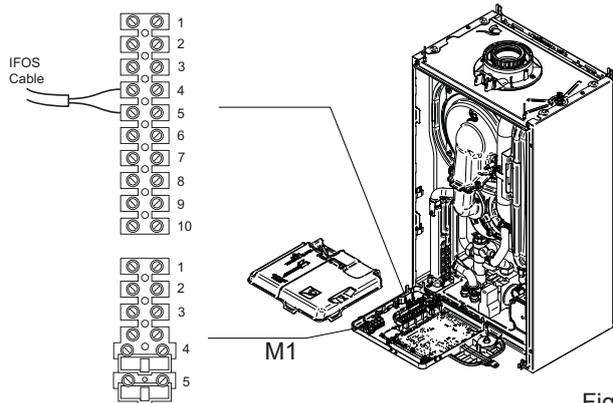

Fig. 18
2. Hinge down the control box and unclip the terminal block cover (Fig. 18).
3. Connect the IFOS cable to 4 & 5 of terminal M2 (Fig. 18).